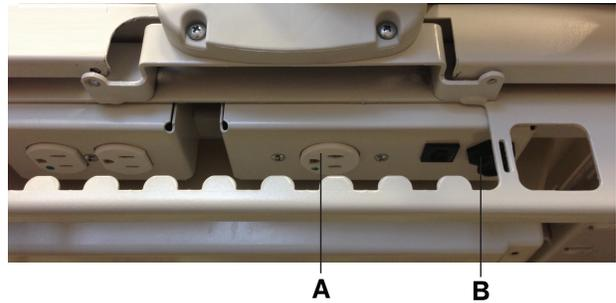

Figure 35: Auxiliary mattress connector outlet
2. Connect the integration cable from the support surface to the auxiliary mattress connector (B) (Figure 35 on page 49).
3. Plug the support surface power cord into the auxiliary mattress connector outlet (A) (Figure 35 on page 49).